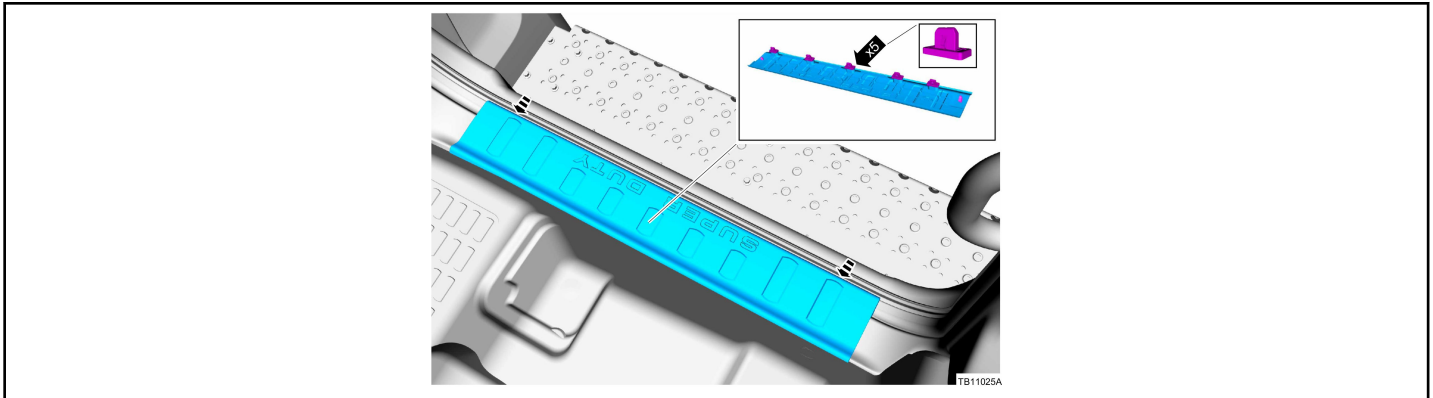

Figure 2 - Article 17-0013
5. Remove the right front door scuff plate. (Figure 2)
14. Reinstall the right side lower cowl trim panel, BCM fuse access cover and right front door scuff plate. (Figures 2 - 4)